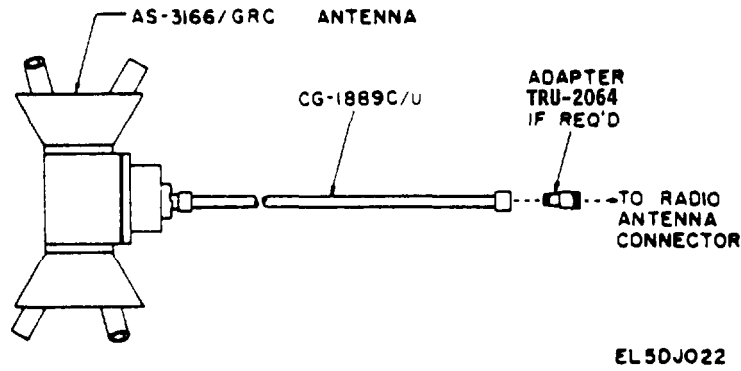

Figure 2-17. Connections of CC-1889C/U to AS-3166/GRC and radio.
(fig. 2-17)
(3) Run the CG-1889C/U through the driver's hatch, coil up the extra cable length, and attach the cable connector to the radio antenna connector (fig. 2-17).